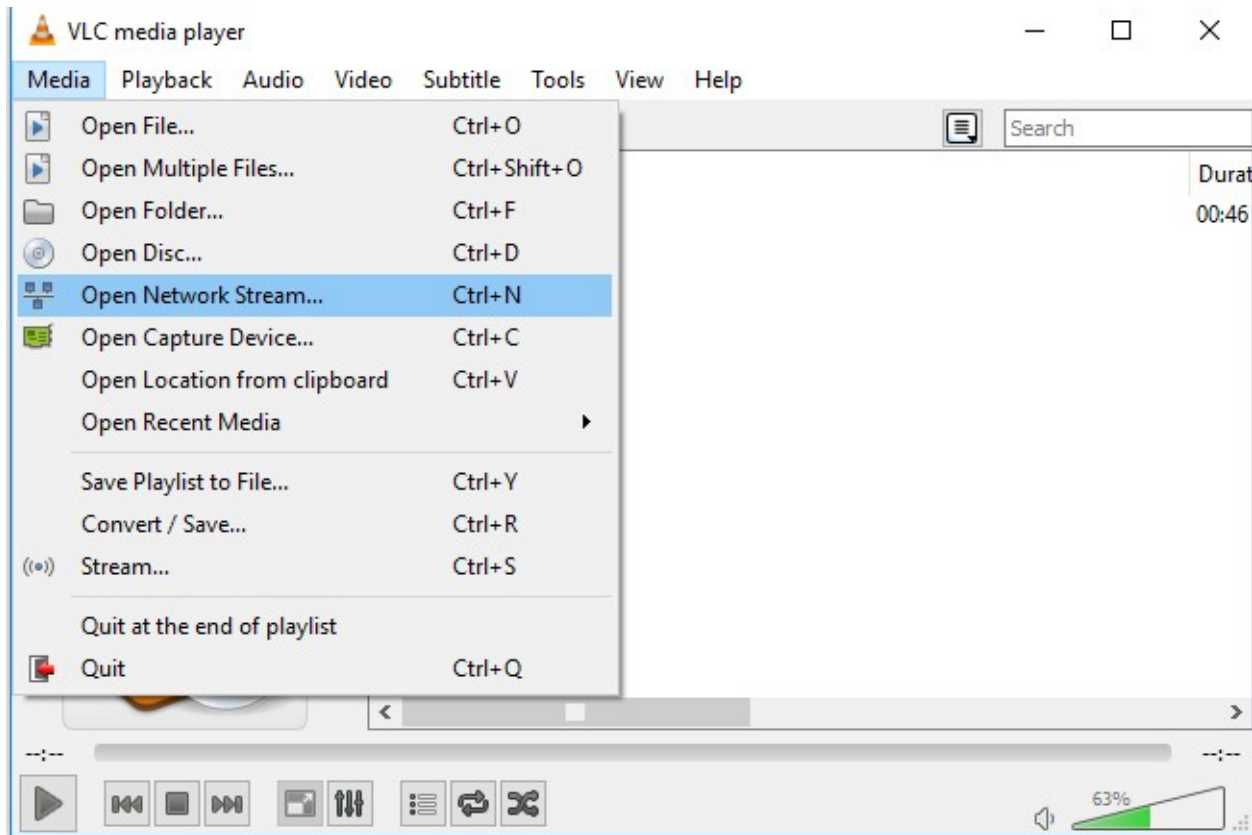

Figure 40. VLC Media Player
2. Select Media->Open Network Stream to call Open Media dialog (Figure 40) .